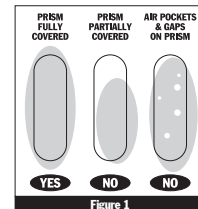

Figure 1
- 3 Gently close the daylight plate over the prism. The distilled water should spread as a thin, even layer in between the daylight plate and the prism. By looking through the daylight plate, ensure that the distilled water covers the ENTIRE surface of the prism. If there are bubbles and gaps or if the distilled water is only on one portion of the prism, the distilled water must be reapplied (Figure 1). Inaccurate calibrations will result if the prism is not covered correctly.
- 2 Gently close the daylight plate over the prism. The sample solution should spread as a thin, even layer in between the daylight plate and the prism. By looking through the daylight plate, ensure that the sample solution covers the ENTIRE surface of the prism. If there are bubbles and gaps or if the sample is only on one portion of the prism, the sample solution must be reapplied (Figure 1). Inaccurate readings will result if the prism is not covered correctly.